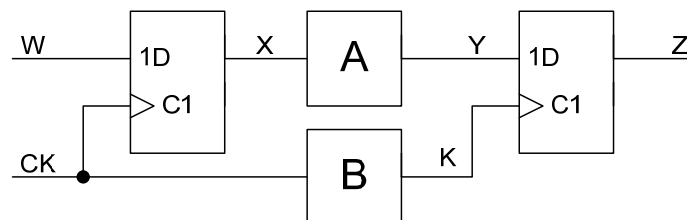

Figure 1.2
- (b) In the circuit of *Figure 1.2*, the flipflops have a propagation delay t_p and setup/hold times of t_s and t_H respectively. The non-inverting blocks A and B have propagation delays t_A and t_B respectively. The clock, CK, is a symmetric square wave with period T .